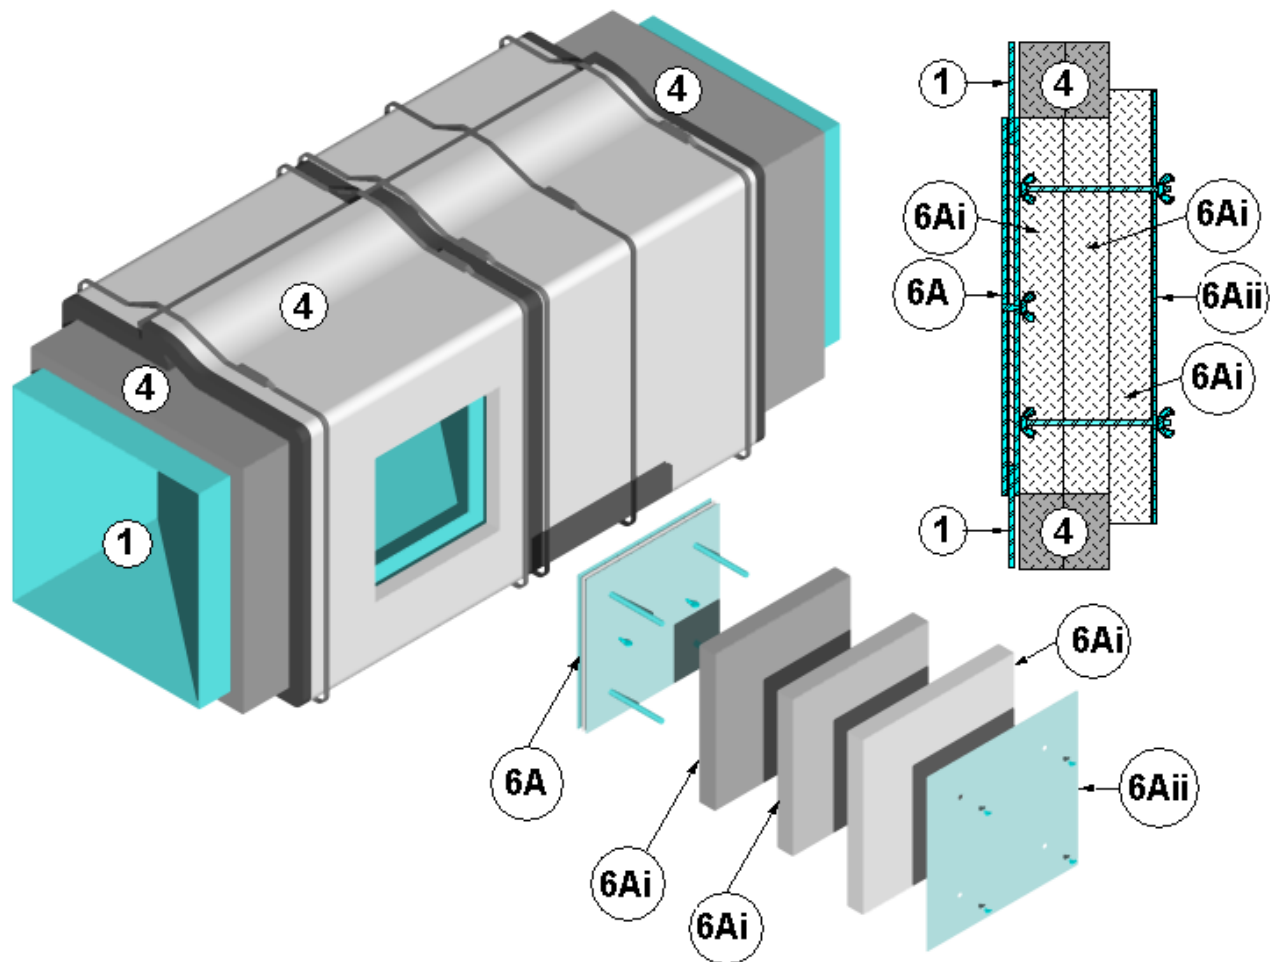

Figure 2 – Ductmate Pre-fabricated Access Door
OPTIONAL PRE-FABRICATED ACCESS DOORS: Refer to Figure 2. Mark a clean-out access opening location on the insulated grease duct (Item 1) at its mid-height along the horizontal section. Cut an opening in the duct insulation (Item 4) the same size as the outside dimension of the desired pre-fabricated access door model. Remove and discard the cut duct insulation (Item 4). Cut an opening into the side of the grease duct (Item 1) according to the manufacturer's instructions for the size of the pre-fabricated access door to be installed. Install and tightly secure the pre-fabricated access door in accordance with the manufacturer's instructions to the grease duct (Item 1). Cut the outer layer of duct insulation (Item 4) so that a 1 in. (25 mm) perimeter of the inner layer of duct insulation (Item 4) is seen, creating a "stair-step."
ACCESS INSULATION: Refer to Figure 2. Remove the four (4), 3/8 in. (10 mm) diameter, corner-thumb bolts and replace them with four (4), 3/8 in. (10 mm) diameter, all-thread, steel rods extending from pre-fabricated access door (Item 6A).